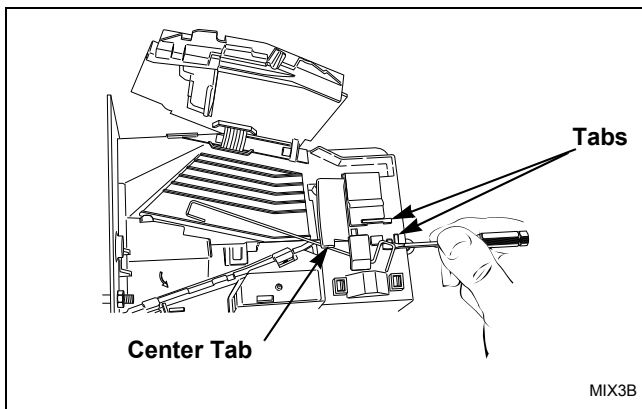
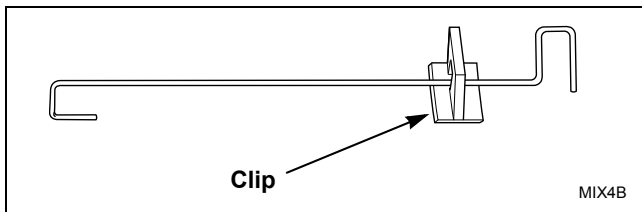

Figure 8
Figure 9
- (6) Rotate spring clockwise, 40 to 60 degrees, until it is free from right tabs. Refer to *Figure 8*.
- (7) Use screwdriver to remove spring from center tab. Refer to *Figure 8*.
(8) Lift spring, with attached clip, off drop.
(9) Remove clip from spring. Refer to *Figure 9*.